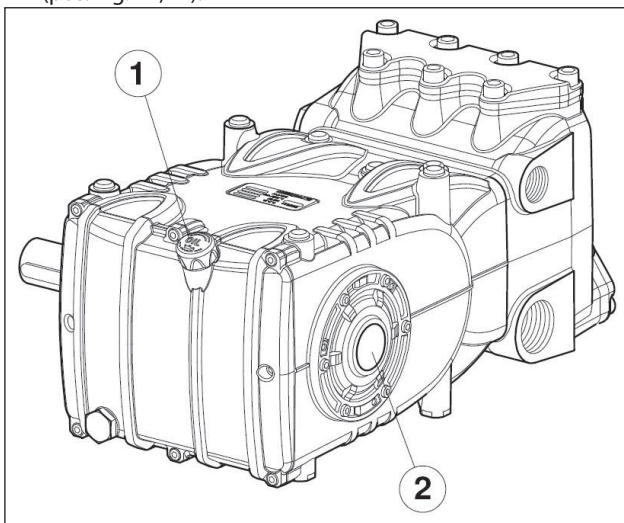

Fig. 14
5. Oil in the pump casing is at level, verified with a dipstick (Fig. 14, pos. ①) and exceptionally with a level indicator (pos. Fig. 14, ②).